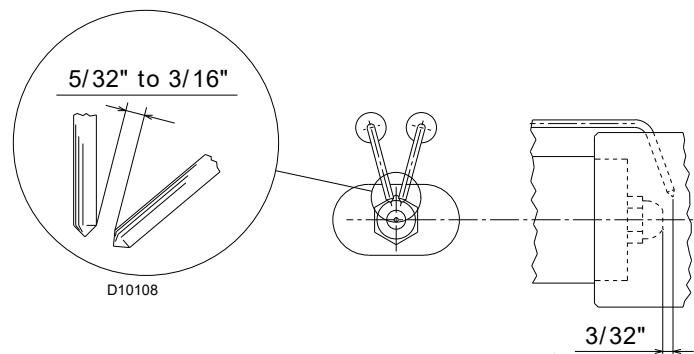

Fig. 12
Make sure that the electrodes are positioned as shown in Fig. 12.
- Make sure that the electrodes are positioned as shown in Fig. 12.